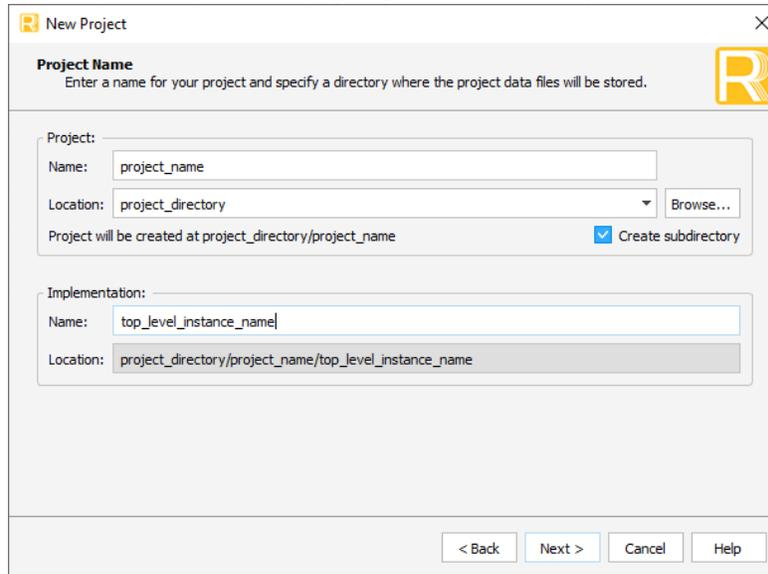

Figure 6.2. New Project Settings
2. In the **New Project** window, specify a name name (<project_name>) for the Lattice Radiant project, a directory (<project_directory>) to store the project files, and a top-level design implementation name (<top_level_instance_name>), as shown in Figure 6.2. Click **Next** two times.